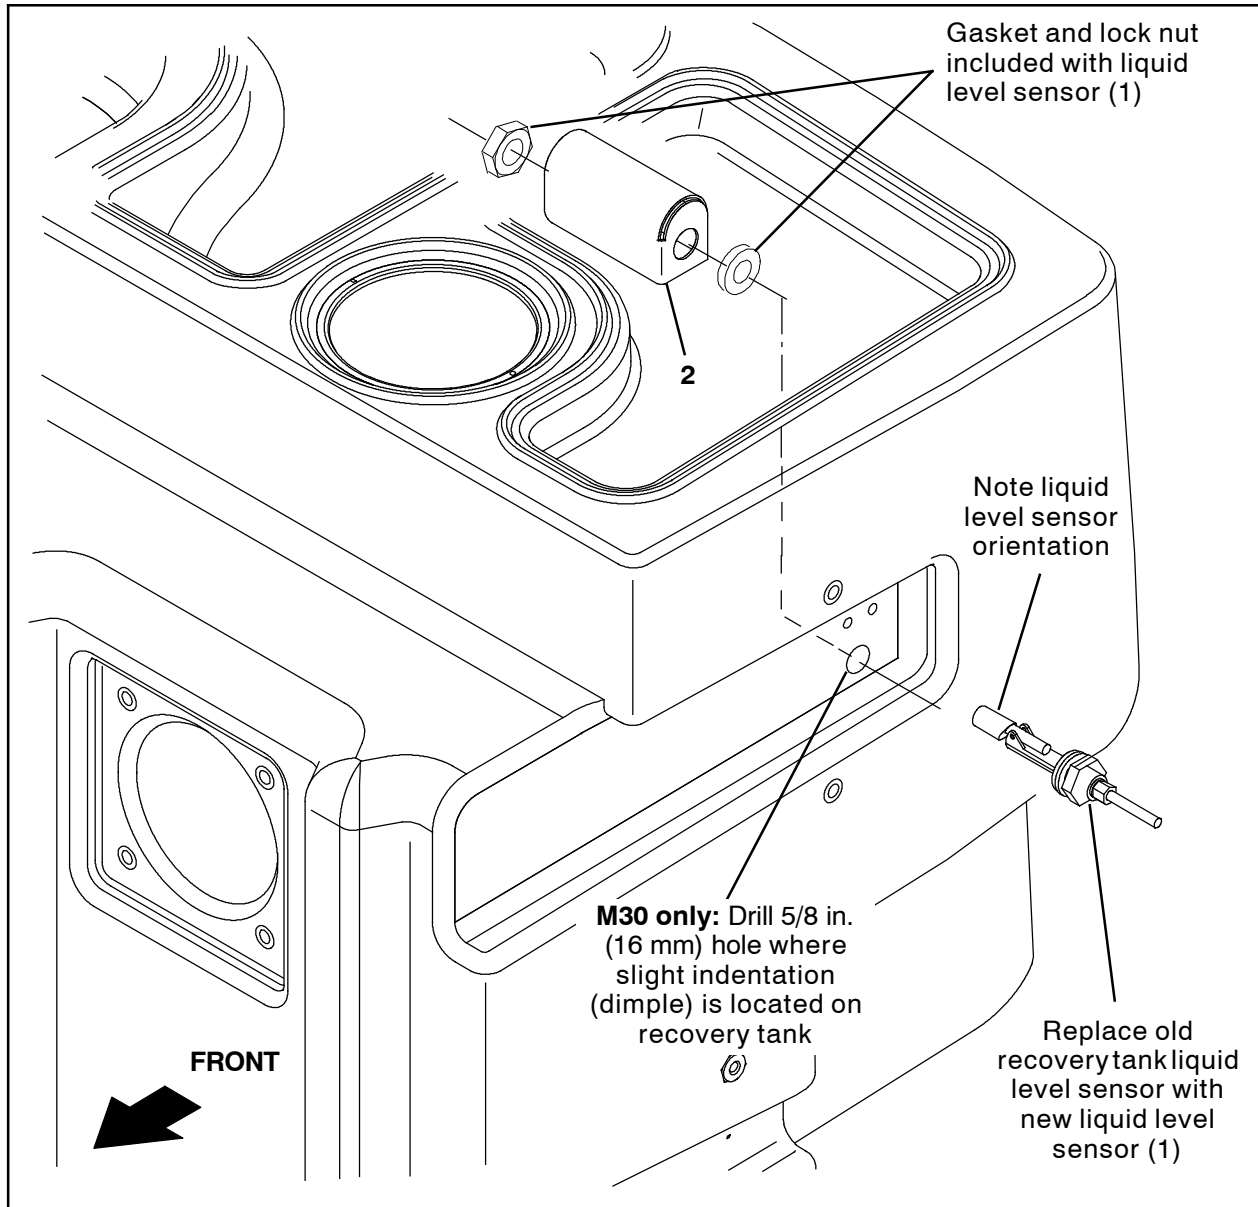

FIG. 5
3. **M30 Machines only:** Drill a 5/8 in. (16 mm) hole into the side of the recovery tank where the slight indentation (dimple) is located. (Fig. 5)
4. **M30 machines only:** Route the main wire harness liquid level sensor to where new liquid level sensor (1) will be installed and connect the main harness to the new liquid level sensor.
5. Remove the lock nut and gasket from one of the new liquid level sensors (1).
6. Use the lock nut and gasket to install the liquid level sensor (1) and float switch protector bracket (2) into the recovery tank. (Fig. 5)
NOTE: Position the liquid level sensor so the narrow end of the float mechanism is oriented as shown in Fig. 5.